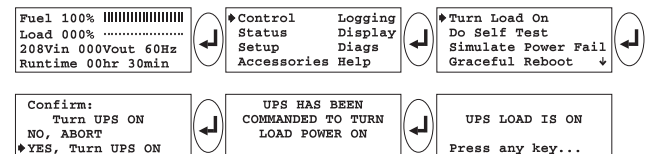

Fig 5-22 Power The Load Sequence
- ❑ 8. Follow these steps to deliver output voltage to the load equipment. See figure 5-22 for the screen sequence: